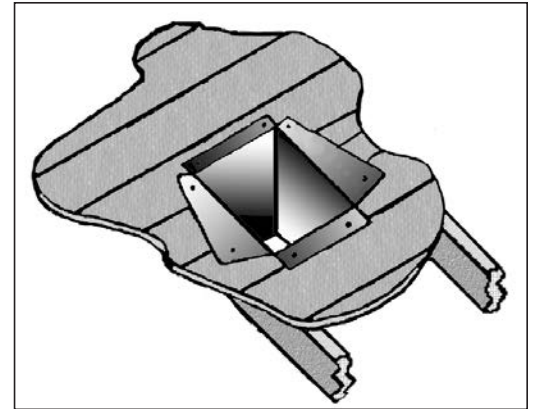

Figure 48: Cathedral Ceiling Support Box Installation.
5. Using tin snips, cut the “Support Box” from the top corners down to the roof line, and fold the resulting flaps over the roof sheathing (Figure 48). Before nailing it in to the roof, run a bead of non-hardening mastic around the top edges of the “Support Box”, to make a seal between the box and the roof. Clean out any combustible material from the inside of the “Support Box”.